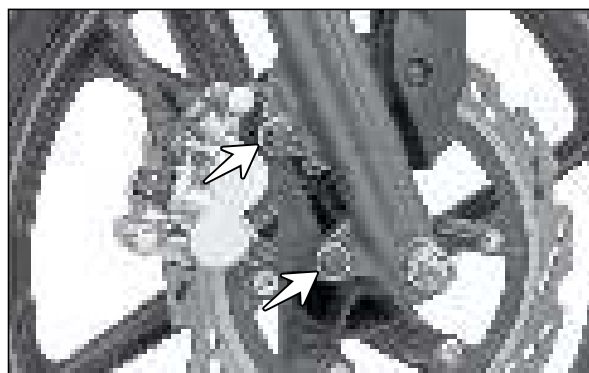

Fig. 6.14
- Remove the caliper assembly mounting bolts (M8x27 - 2 Nos.) and take off the caliper assembly. (Fig. 6.14)